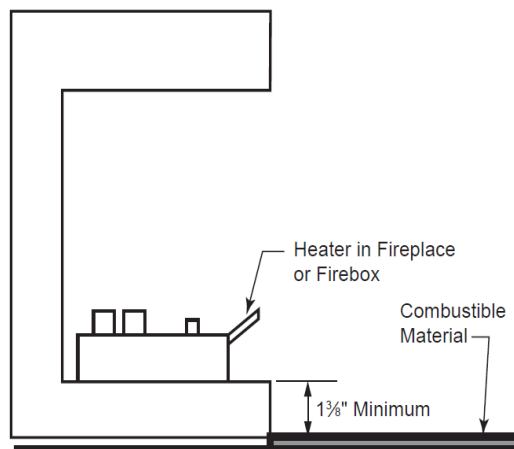

Figure 8 – Minimum Clearance Above Combustible Flooring.
The gas log heater must be installed at least $1\frac{3}{8}$ " above any combustible flooring material, such as carpeting or tile, which is closer than 14" to the base of the fireplace. The minimum distance must be maintained from the top surface of carpeting, tile, etc. **See Figure 8.**
2. If combustible materials are less than 14 inches to the fireplace, you must install appliance at least 5 inches above the combustible flooring (See Figure 8)